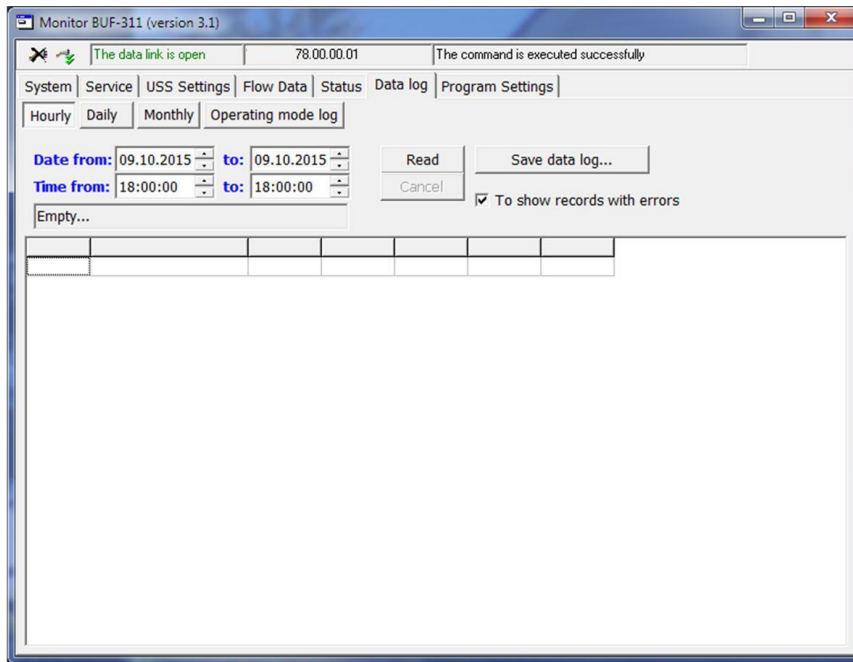

Fig.11. "Data Log" window
4.1.6. To read the logs, go to the "**Data Log**" tab (Fig.11), select log type (**Hourly, Daily or Monthly**), set the required interval in "**Date**" and "**Time**" fields and press the "**Read**" button.